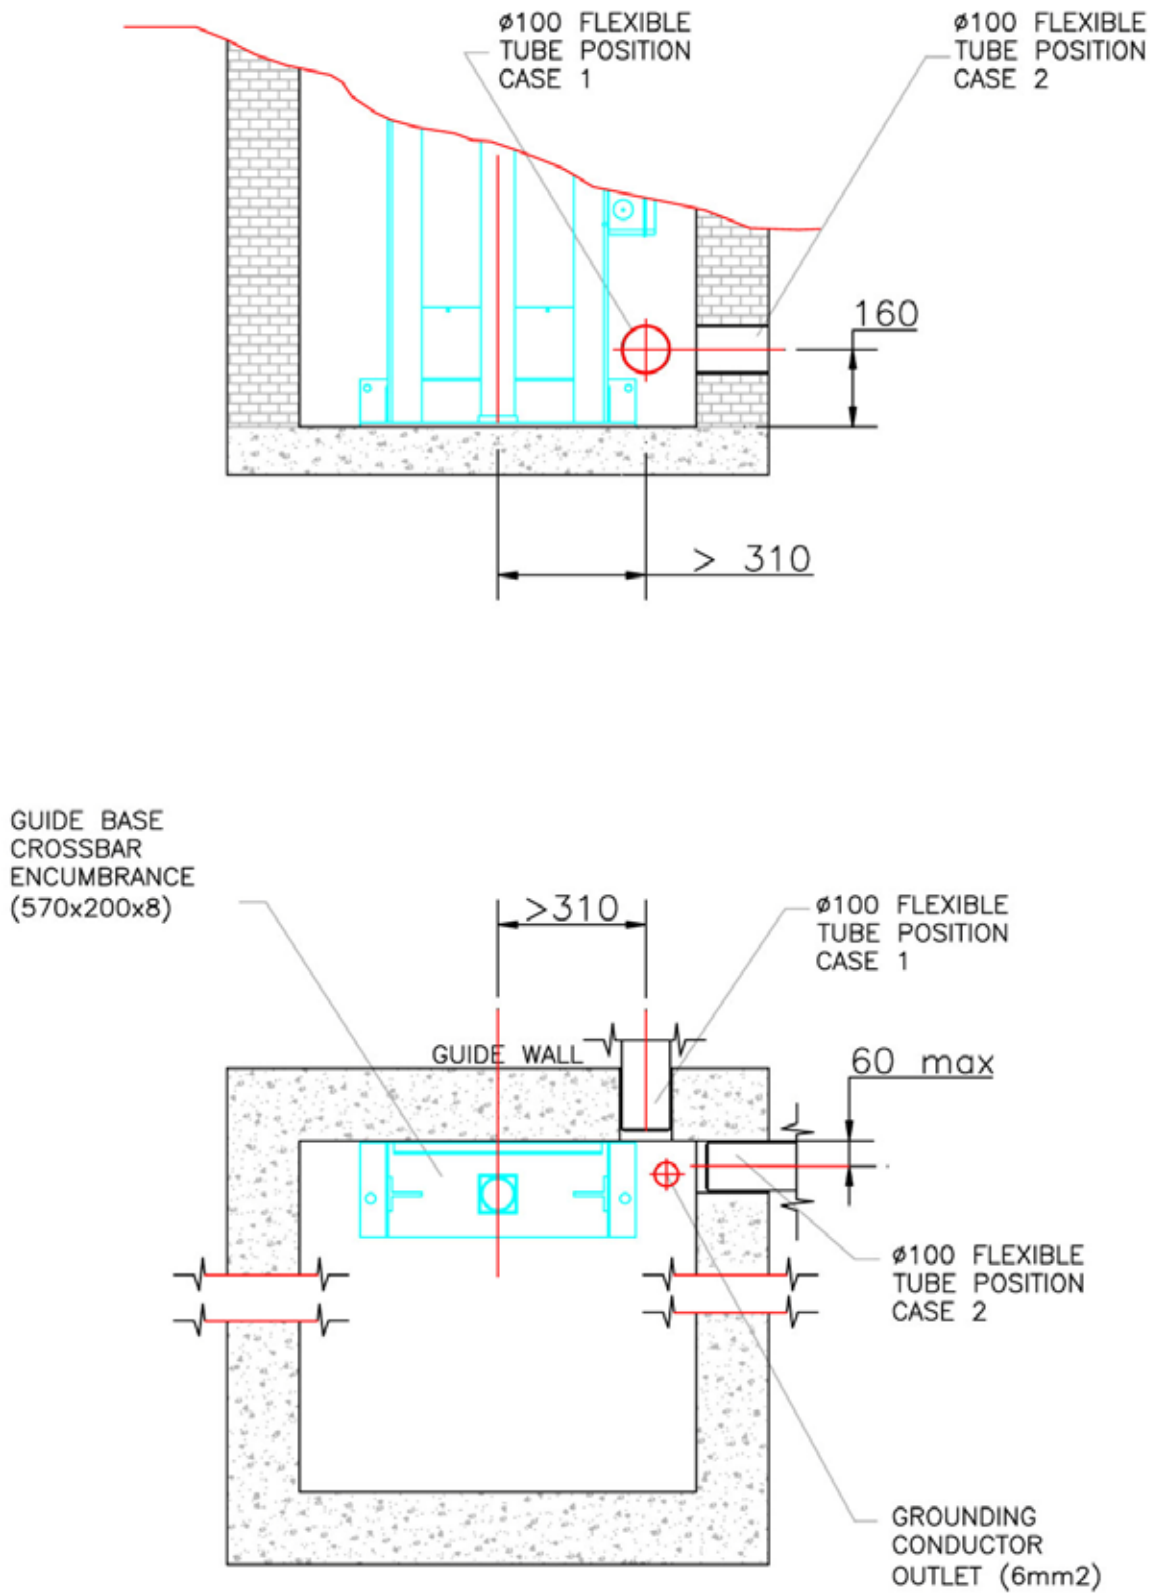

Figure 17 – Flexible tubing inlets
**Important!** A 6 mm2 tube must provide the possibility of accessing the building's grounding system from the tower's installation site (figure 17)